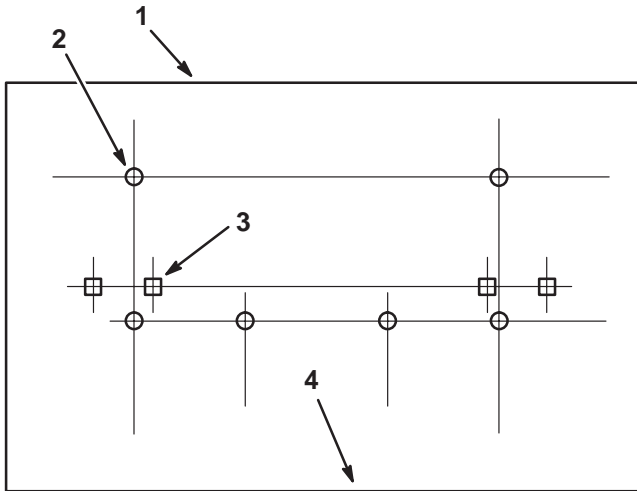

Figure 2
5. Align the square holes in the drill template with the square holes in the deck. Mark and drill six (6) 11/32" holes in the top right-hand surface of the mower deck (Fig. 2).